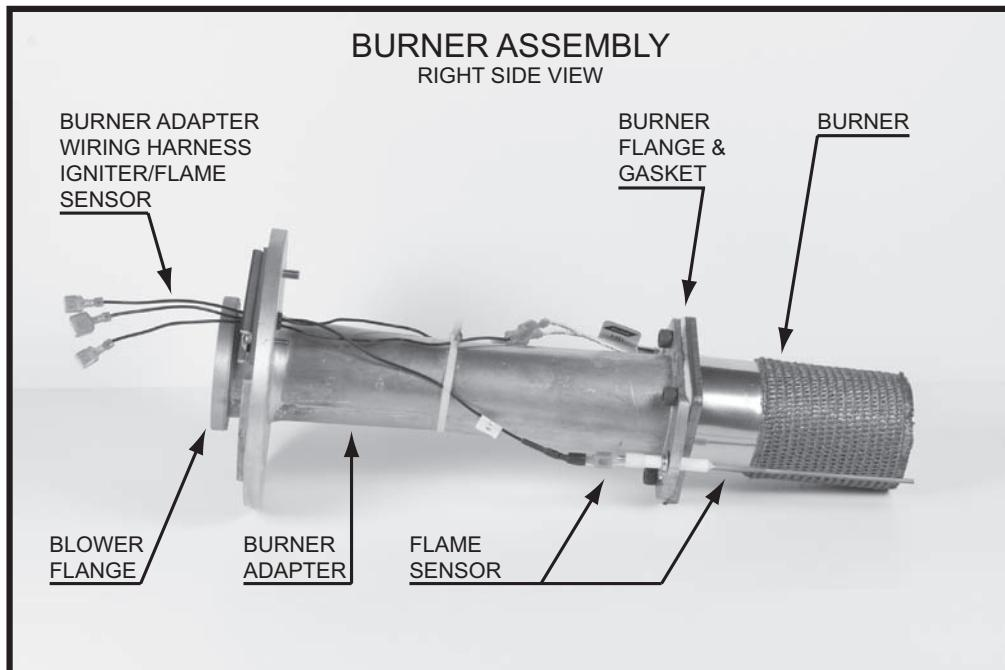
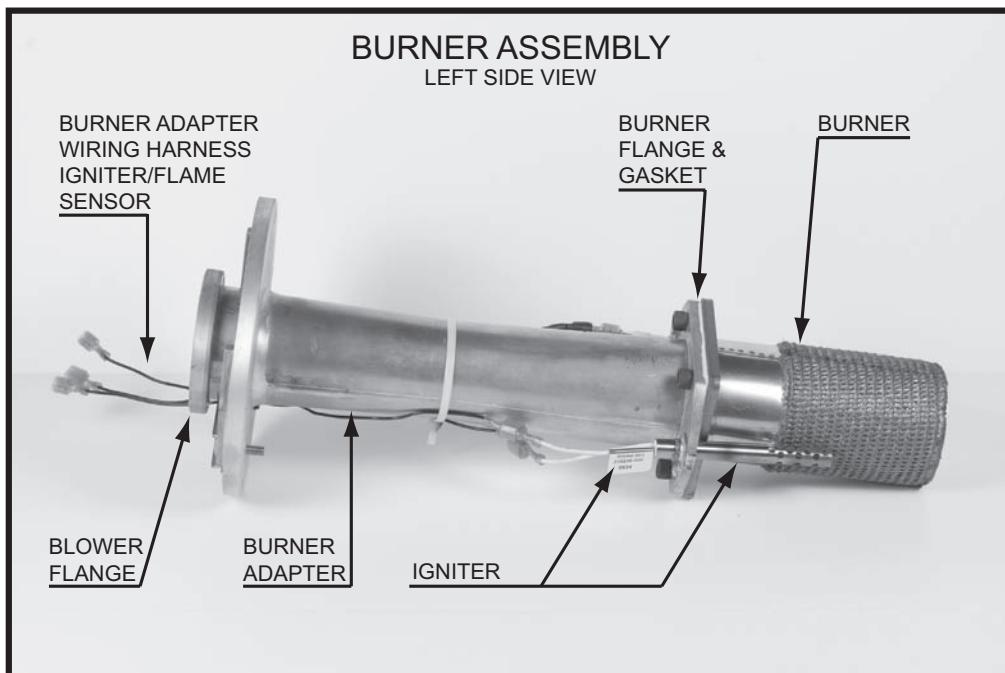
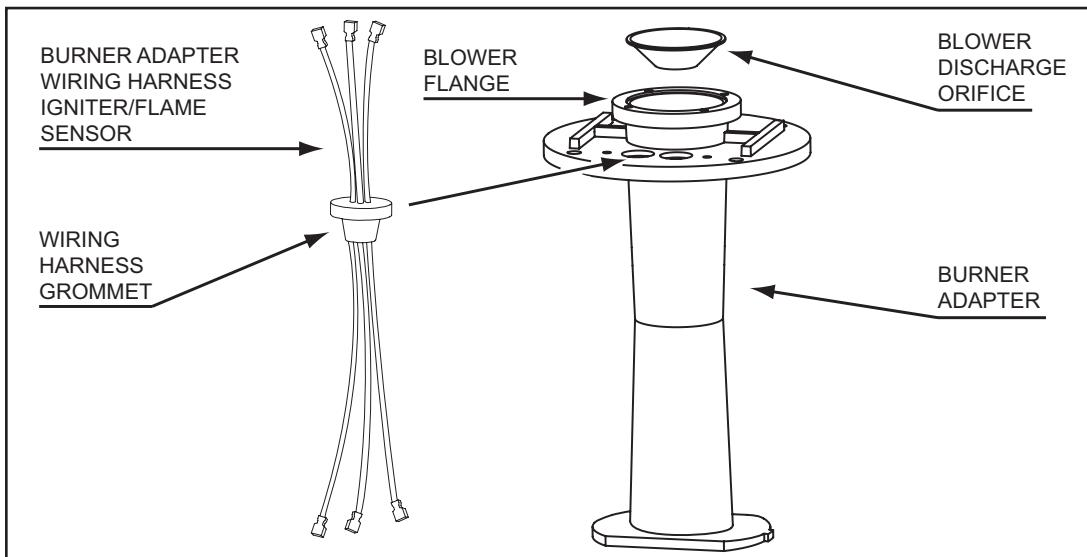

Figure 8
Figure 9
Figure 12
The Burner is a radial design burner with a steel fiber jacket on the outer surface and is part of a larger Burner Assembly. Figure 8 and Figure 9 below show side views of the complete Burner Assembly removed from the water heater with key components identified. See the exploded view of the Combustion Blower & Burner Assembly on page 9 also.
12. Inspect the Burner Adapter wiring harness and wiring harness grommet, replace the wring harness if it shows any sign of excessive wear or damage, see Figure 8 on page 12 and Figure 12 on page 13.